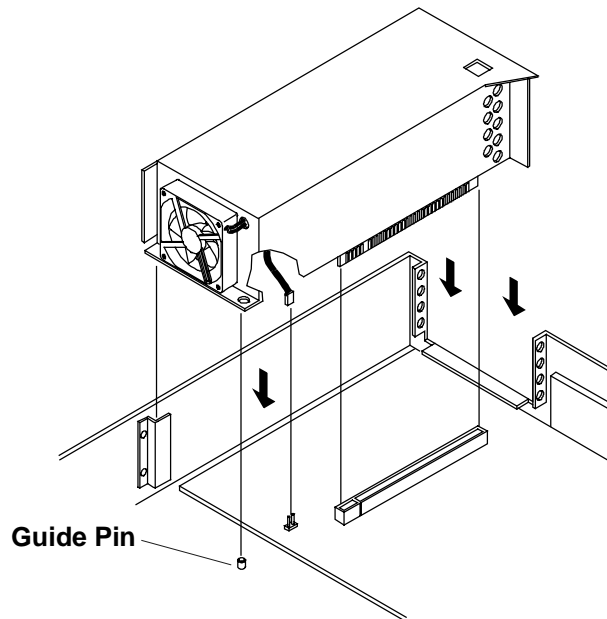

Figure 2-6. Replacing the PCI Card Cage
1. Align the PCI card cage with the guides on the and left side of the chassis. Lower the PCI card cage and plug the fan into the connector on the system board. See Figure 2-6.
3. Make sure that the front edge of the PCI card cage is seated on the guide pin. See Figure 2-6.